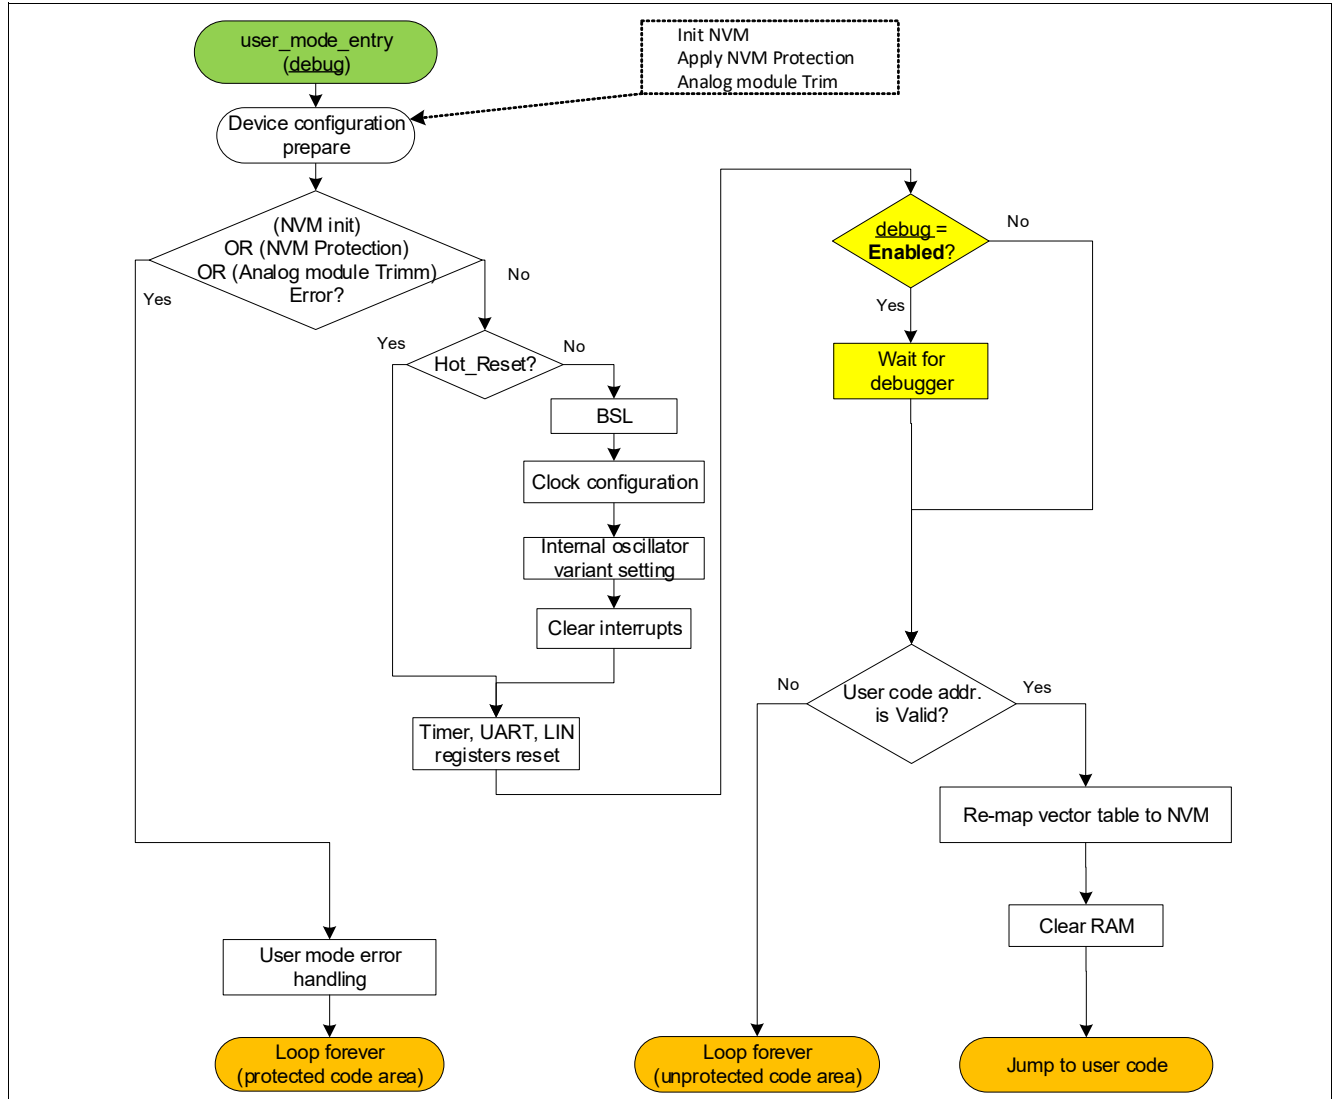

Figure 3-3 Flowchart – User BSL Mode (UM)
Figure 3-3 “Flowchart – User BSL Mode (UM)” on Page 15 shows the flow of User BSL mode. This is the default user entry mode, in which the BootROM configures the device with user device variants. If device init fails (e.g. due to NVM not available, NVM init error or trimming error), the bootROM protects the complete NVM